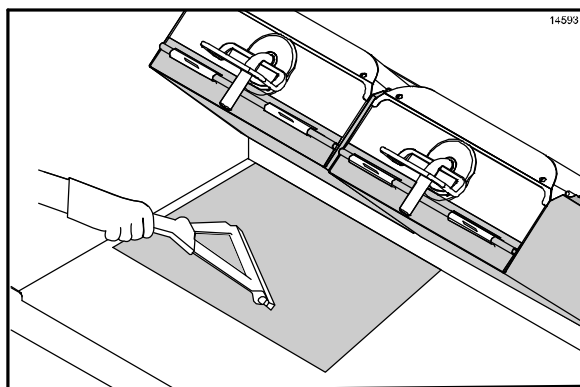

Figure 21
- Using the grill squeegee, gently squeegee out air bubbles, making sure not to crease or fold the release sheet. (See Figure 21.)